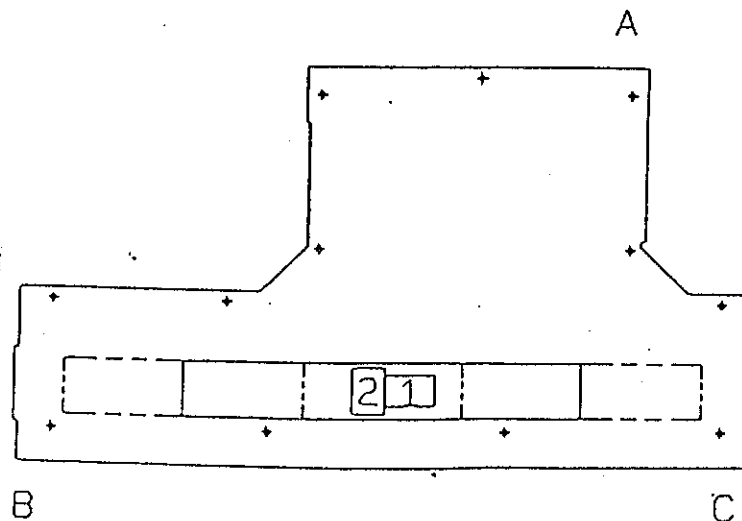

Fig. 4-11 Leveling
1. To install the machine, support it in the beginning at 3 positions as shown in Fig. 4-11 and then adjust the jack bolts: